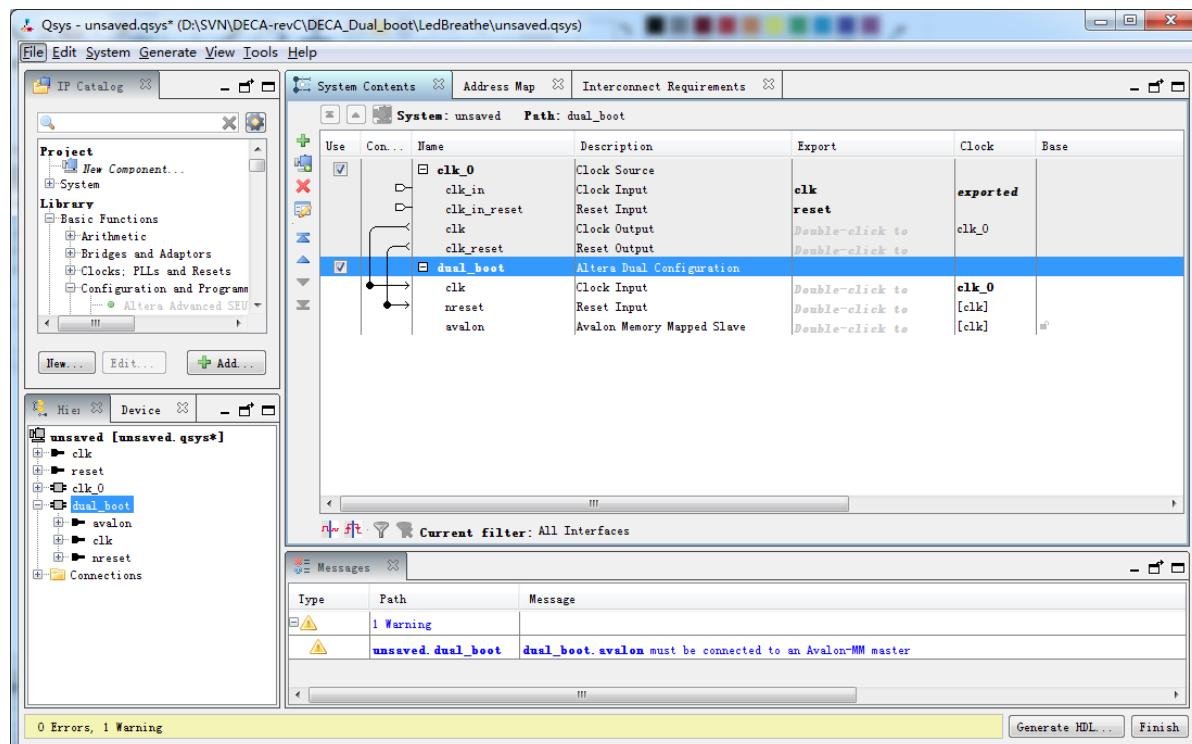

Figure 8-7 Rename and Connect Dual Boot IP
- Choose **dual_boot_0** and rename it to **dual_boot**, connect the **clk** and **nreset** to **clk_0.clk** and **clk_0.clk_reset** as shown in **Figure 8-7**.